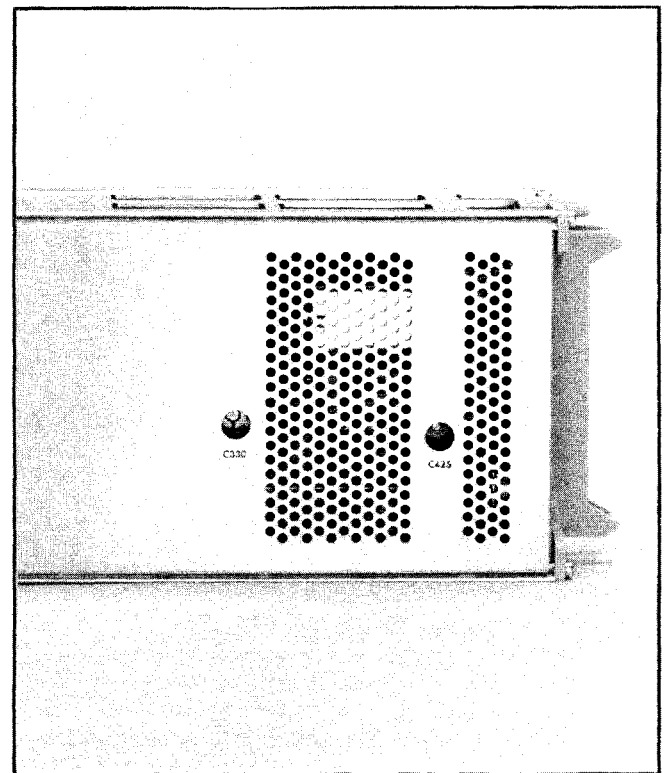

Fig. 5-6. Right side of 7A22 showing location of adjustments.
f. ADJUST—With the frequency set to 1 MHz, adjust C425 for 4.2 div of display amplitude. See Fig. 5-6 for location of adjustment.
h. Adjust C330 (and C144 SN B080000 and up) for minimum vertical deflection. See Fig. 5-6 for C330 location. C144 is under the plastic cover near Q153 on the left side of the 7A22 (see Fig. 4-6, page 4-10).